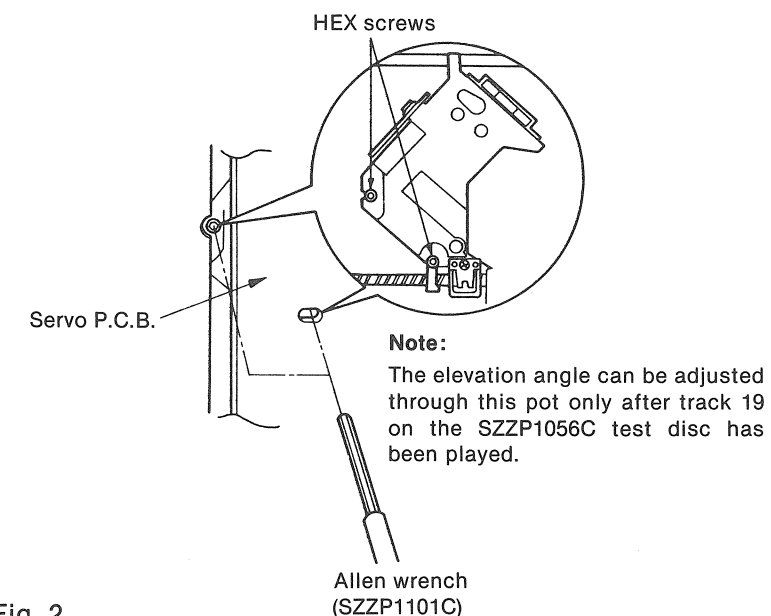

Fig. 2
4. Alternately adjust the HEX screws with the 2.0mm allen wrench (SZZP1101C) until the vertical fluctuation of RF signal is minimized and the eye pattern is most stretched. (Refer to Fig. 2 on page 20)